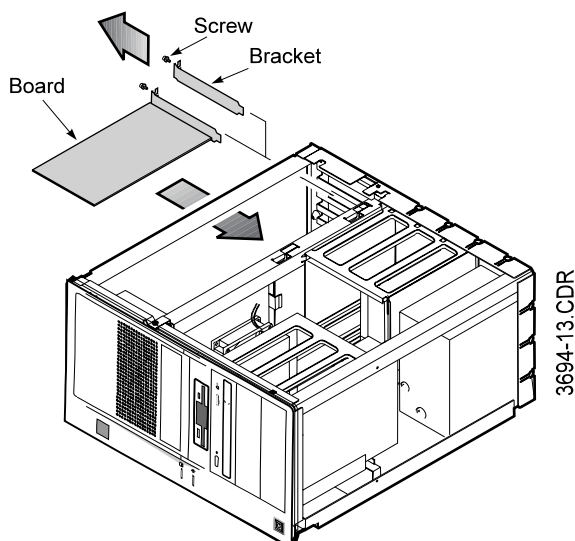

Figure 12. Installing an Add-in Board
- a. Line up the board with the expansion slot (Figure 12).